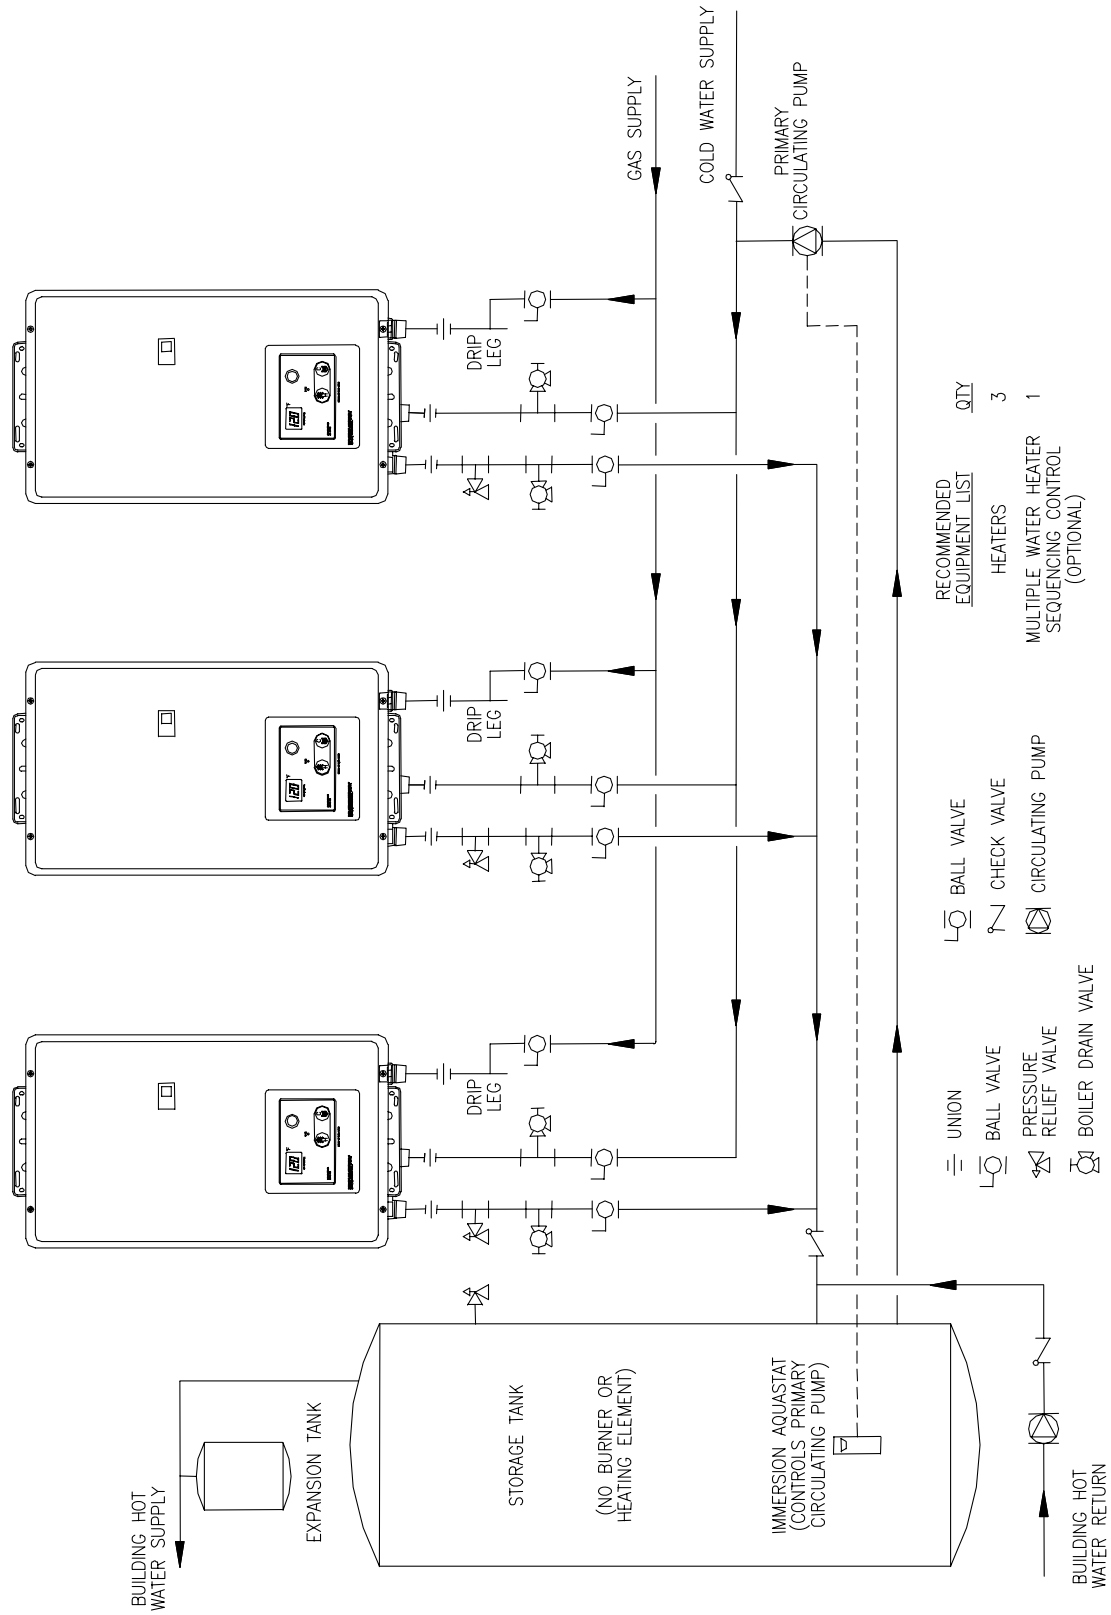

Figure 5
9. Commercial installations may require more than one water heater piped together in a manifold to supply enough capacity for high temperature and high water flow applications. Special controls are available from your supplier for operating more than one water heater together. These controls stage the operation of the water heaters for the flow rates and control the amount of flow through each water heater. Order part# 239-44511-00 for the electronic manifold control for the first and second water heater and part# 239-44512-00 for the wiring harness for each additional water heater to be controlled. Instructions are included with these parts. Use the piping diagram in figure 5 in Section V as a guide.